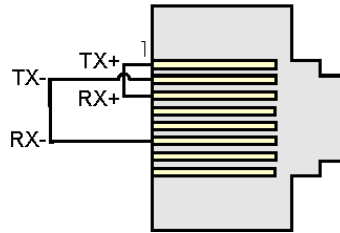

Figure 5-15. RJ-45 Ethernet Loop-back Plug
This test configures the Ethernet port's ability to transmit and receive via the twisted pair. The text transmits frames and compares them against received frames. You need a special loop-back plug (shown in *Figure 5-15*) to perform the Ethernet loop-back test:
1. Connect an external Ethernet loop-back plug (see *Figure 5-15*) to the Ethernet port on the CPU module to be tested.